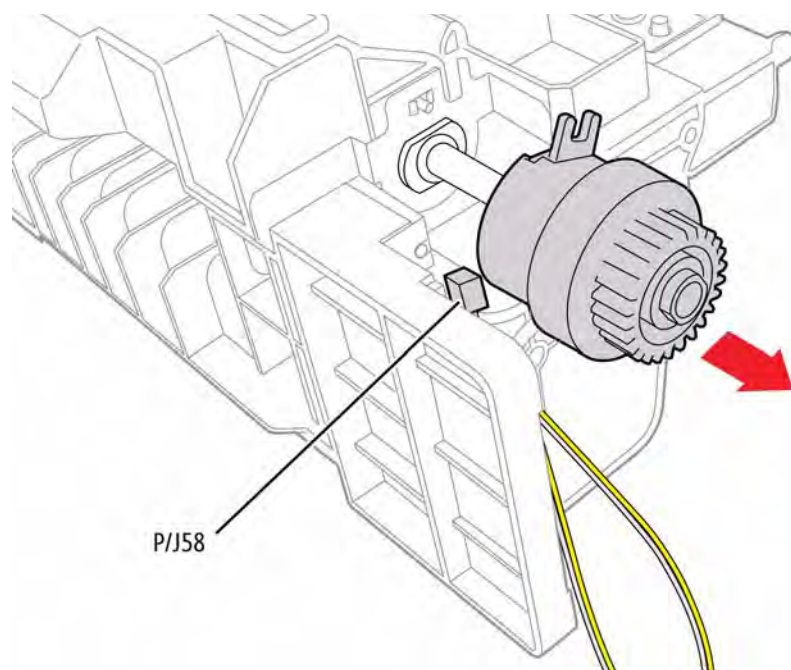

Figure 1 Remove the Feeder Assembly top screws
9. Remove the fibre retainer that secures the clutch to the shaft, Figure 1.